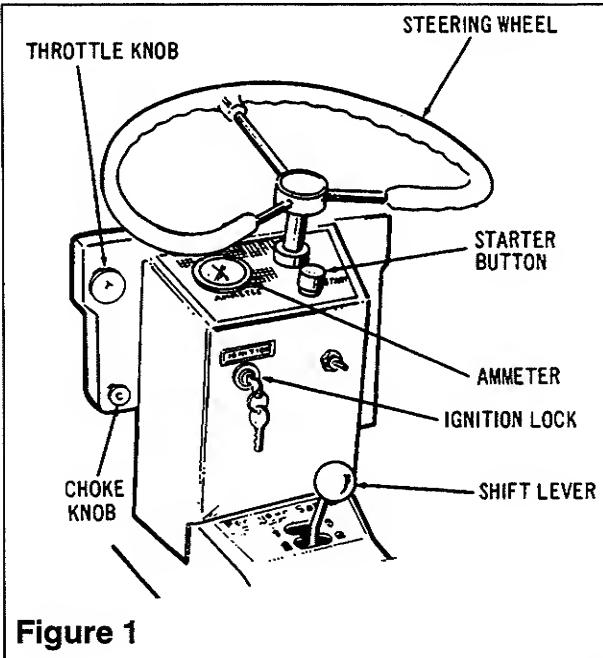
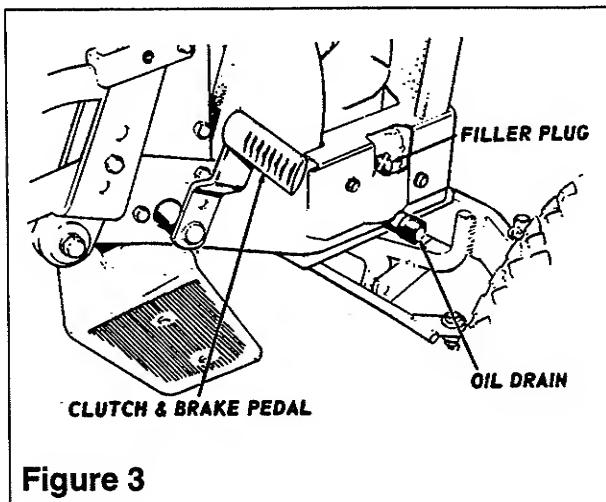

Figure 1
Figure 3
1. Place gear shift lever in neutral position. See Figure 1. (Be sure tractor is on level ground and will not roll away in neutral. Apply parking brake.)
2. Place choke lever in "ON" position. See Figure 1.
3. Set throttle lever in mid position and turn ignition key to "ON". See Figure 1. Press starter button to start engine and release. As engine warms up, return choke lever to "OFF" position.
1. Place gear shift lever in neutral position. See Figure 1. (Be sure tractor is on level ground and will not roll away.)
3. Place choke lever in "ON" position. See Figure 1.
4. Place throttle lever in mid position and turn ignition key to "ON" position. See Figure 1.
To place gear shift in desired gear range, depress the combination brake and Clutch pedal located on right hand side of tractor. See Figure 3. When pedal is depressed move shift lever to desired position (see Figure 1) and gradually release pedal until clutch is engaged. When shifting from one range to another, pause briefly in neutral before completing shift. Set throttle lever to obtain desired speed. See Figure 1.